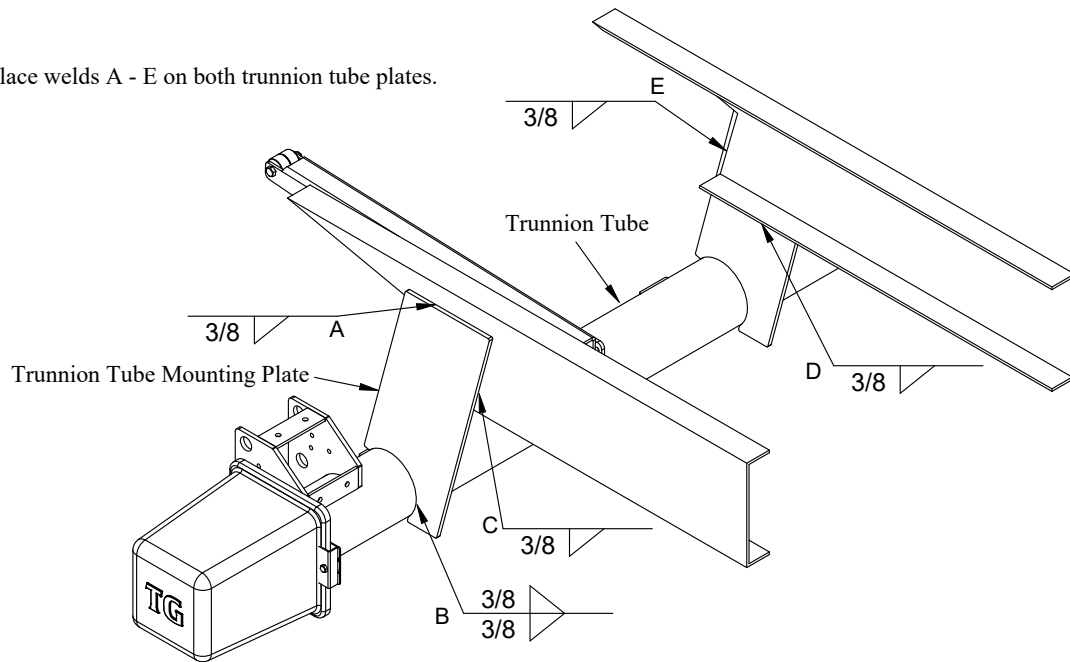

Figure 14: Trunnion Tube & Trunnion Tube Mounting Plates - Finish Weld Locations
- 16. Position** the trunnion tube mounting plates on the trunnion tube outside of the truck frame (Figure 14).
- 17. Tack Weld** the trunnion tube mounting plates to the trunnion tube and truck frame using 3/8" fillet welds, 1" long (Figure 14).
2. **Finish Weld** the trunnion tube mounting plates to trunnion tube and truck frame with 3/8" fillets (Figure 14).